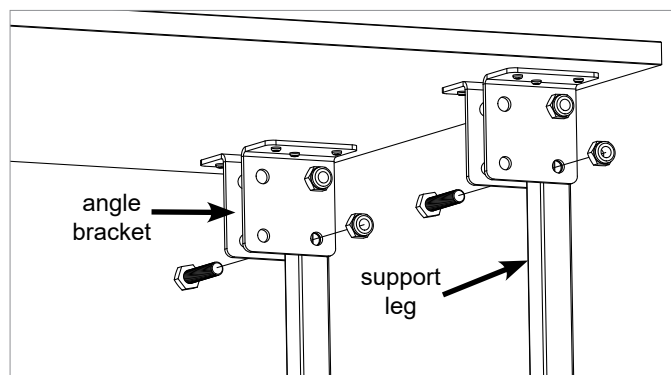

Fig. 2
2. Rotate each support leg down until the hole in each leg aligns with the holes in the corresponding angle brackets, as shown in Fig. 2. Insert one of the M10 x 45 hex head bolts through the holes and thread one M10 nylon hex nut on each bolt. Tighten the two nuts you just installed as well as the already-installed nuts on the two upper bolts using two 17 mm wrenches.